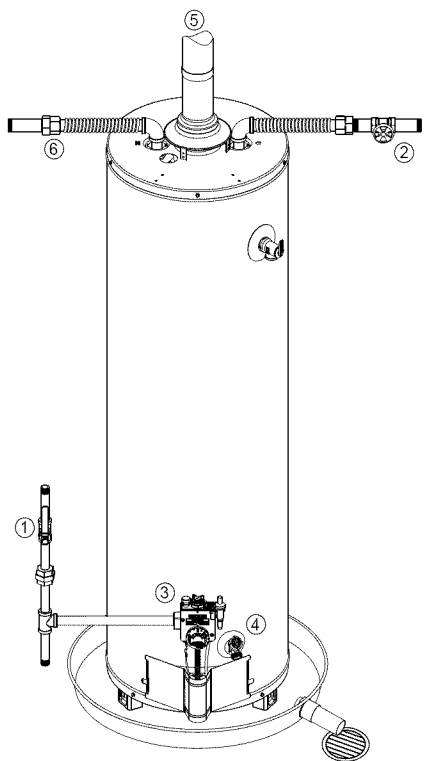

FIGURE 2.
If the main gas line shutoff valve serving all gas appliances is used, also shut "OFF" the gas at each appliance. Leave all gas appliances shut "OFF" until the water heater installation is completed, see Figures 2 and 3.
- ② Turn "OFF" the water supply to the water heater at the water shut off valve or water meter. Some installations require that the water be turned off to the entire house, see Figures 2 and 4.
- ③ Check again to make sure the gas supply is "OFF" to the water heater. Then disconnect the gas supply connection from the gas control valve.
- ④ Attach a hose to the water heater drain valve and put the other end in a floor drain or outdoors. Open the water heater drain valve. Open a nearby hot water faucet which will relieve pressure in the water heater and speed draining. The water passing out of the drain valve may be extremely hot. To avoid being scalded, make sure all connections are tight and that the water flow is directed away from any person, see Figures 2 and 5.